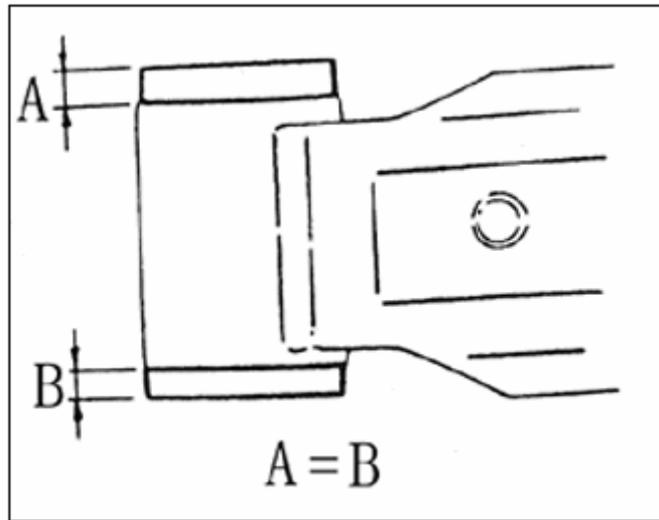

FIG.14-24
- (2) Compress bushing until the protruding length on two sides of arm is equal. (FIG.14-24).